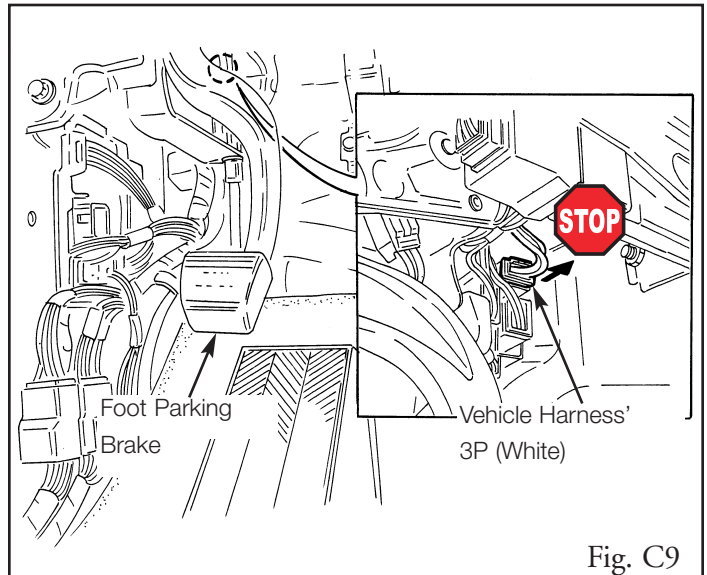

Fig. C9
12. Locate and disconnect the white 3P connector from the driver side cowl area. (Fig. C9)